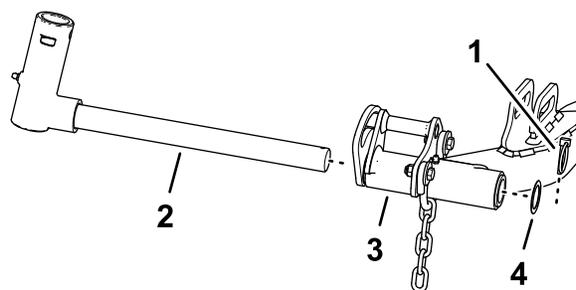

**Figure 24**
1. Slide a cutting unit under the lift arm (Figure 24).